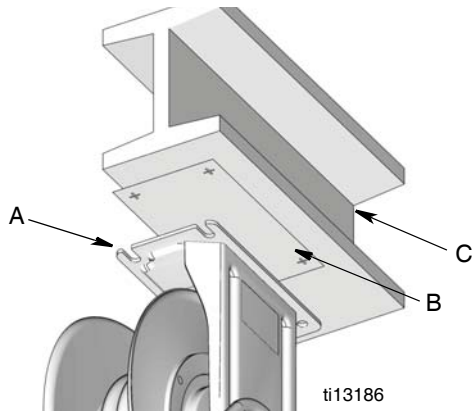

FIG. 8
- Using the template (B), provided, drill holes in the I-Beam (C) (FIG. 8).